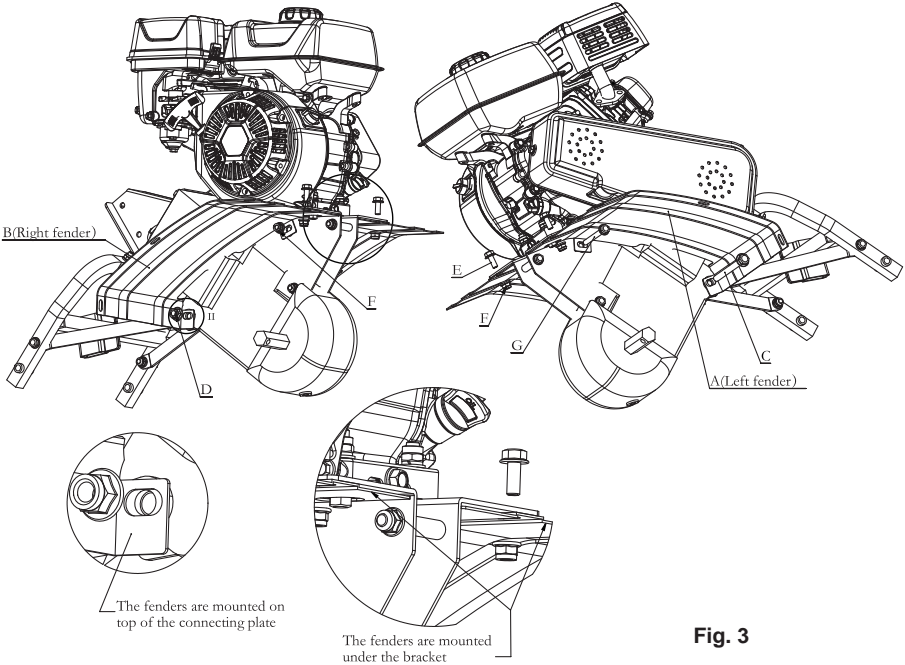

Fig. 3
Step 3 Assembly of the left/right fender (See Figure 3)
- a. Assemble the right fender (B) to the frame kit, at front side, screw using M8x16 bolt (E) and 1 M8 nut (F), the fender is underneath, do not tighten nut completely.
- b. At rear side, put the connecting plate of wheel bracket in the middle between right fender and frame kit, screw using 1 M10x100 bolt (C) and 1 M10 nut (D), do not tighten nut completely.
- d. In the middle position of frame, use 1 M8x70 bolt (G) and 1 M8 nut (F) to connect the left and right fenders.